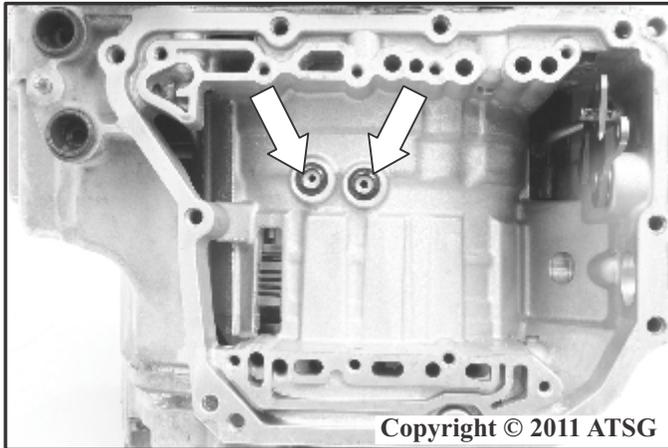

Figure 29
29. Remove and discard the two transmission case fluid passage seals as shown in Figure 29.